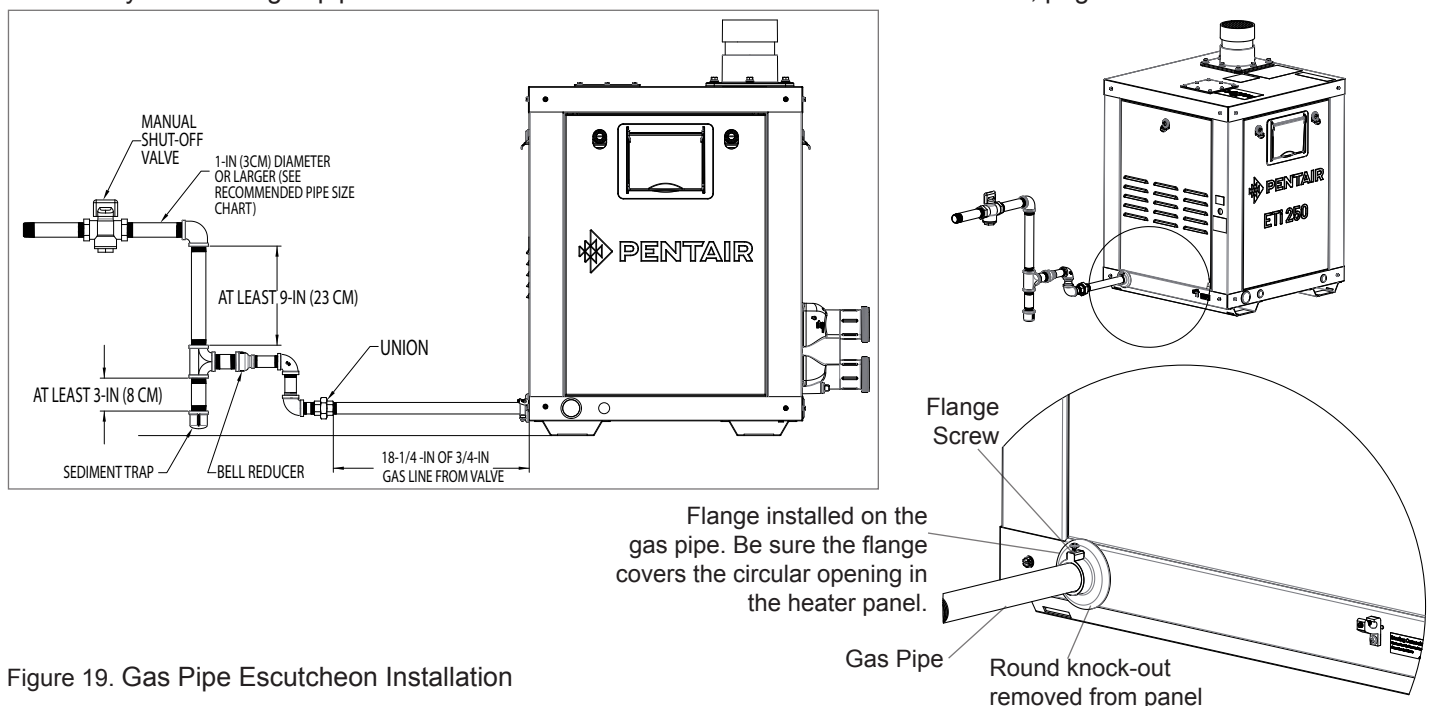

Figure 19. Gas Pipe Escutcheon Installation
- When installing the 3/4" pipe into the gas valve, place the gas pipe escutcheon over the pipe so that the larger circle is facing the heater's service panel and the smaller circle with the screw is facing away for the heater service panel (toward the union) as shown in Figure 19.